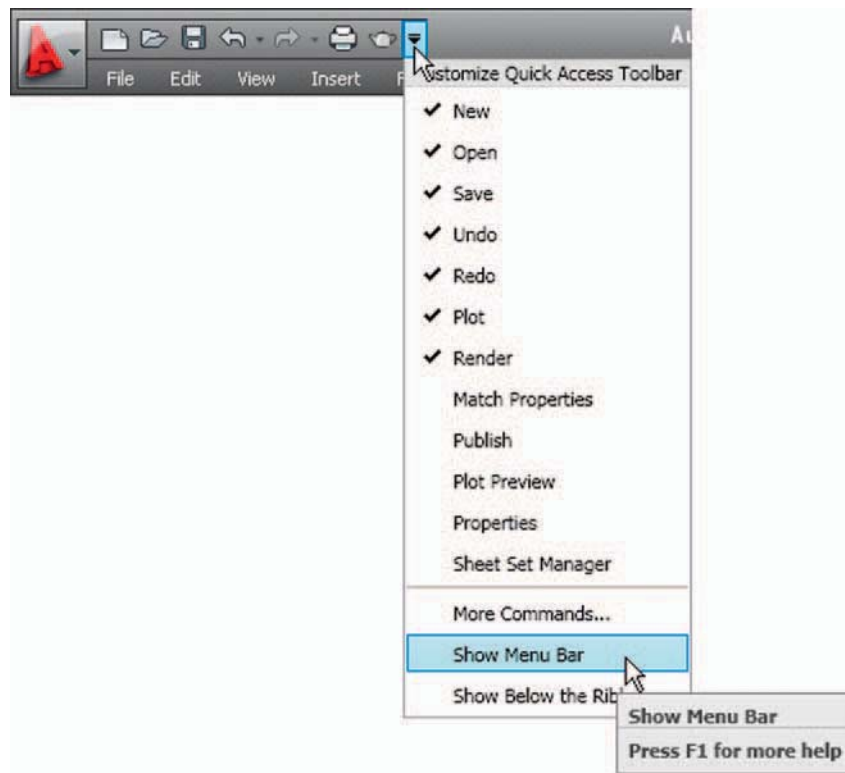

Fig. 3.4 Selecting **Show Menu Bar** from the *left-click* menu in the **Quick Access** Toolbar
3. By *clicking* on the tool's name in an appropriate drop-down menu. Fig. 3.3 shows the tool names and icons displayed in the **Draw** drop-down menu. It is necessary to first bring the menu bar to screen with a *click* on **Show Menu Bar** in the *left-click* menu of the **Quick Access** toolbar (Fig. 3.4) if the menu bar is not already on screen.